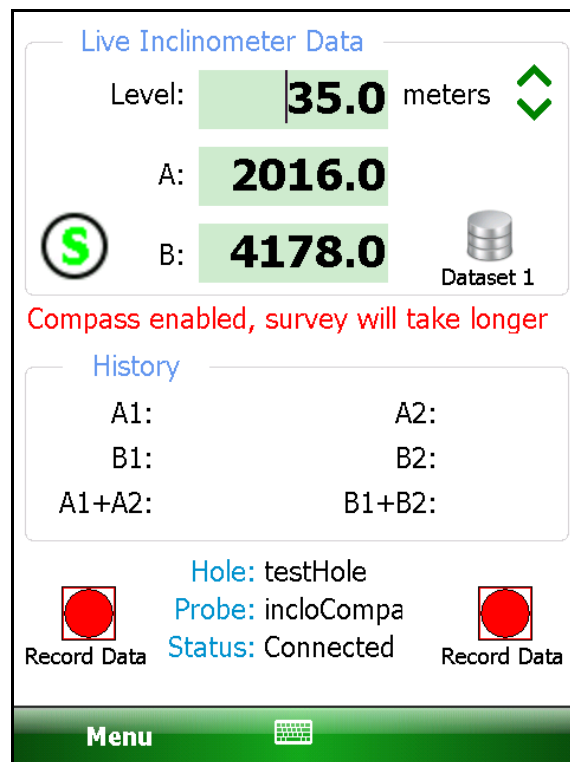

Figure 94 – Compass Enable Message
6. If the GK-604D IRA has detected an inclinometer with the integral compass, tapping the "Menu" option will display the menu shown in Figure 36. Tapping the menu option, "Enable Compass Survey", will display the message shown (in red) in Figure 94 for approximately 5 seconds and will enable the compass survey option. This message informs the user that, with the compass enabled, an inclinometer survey will take approximately 30% longer.